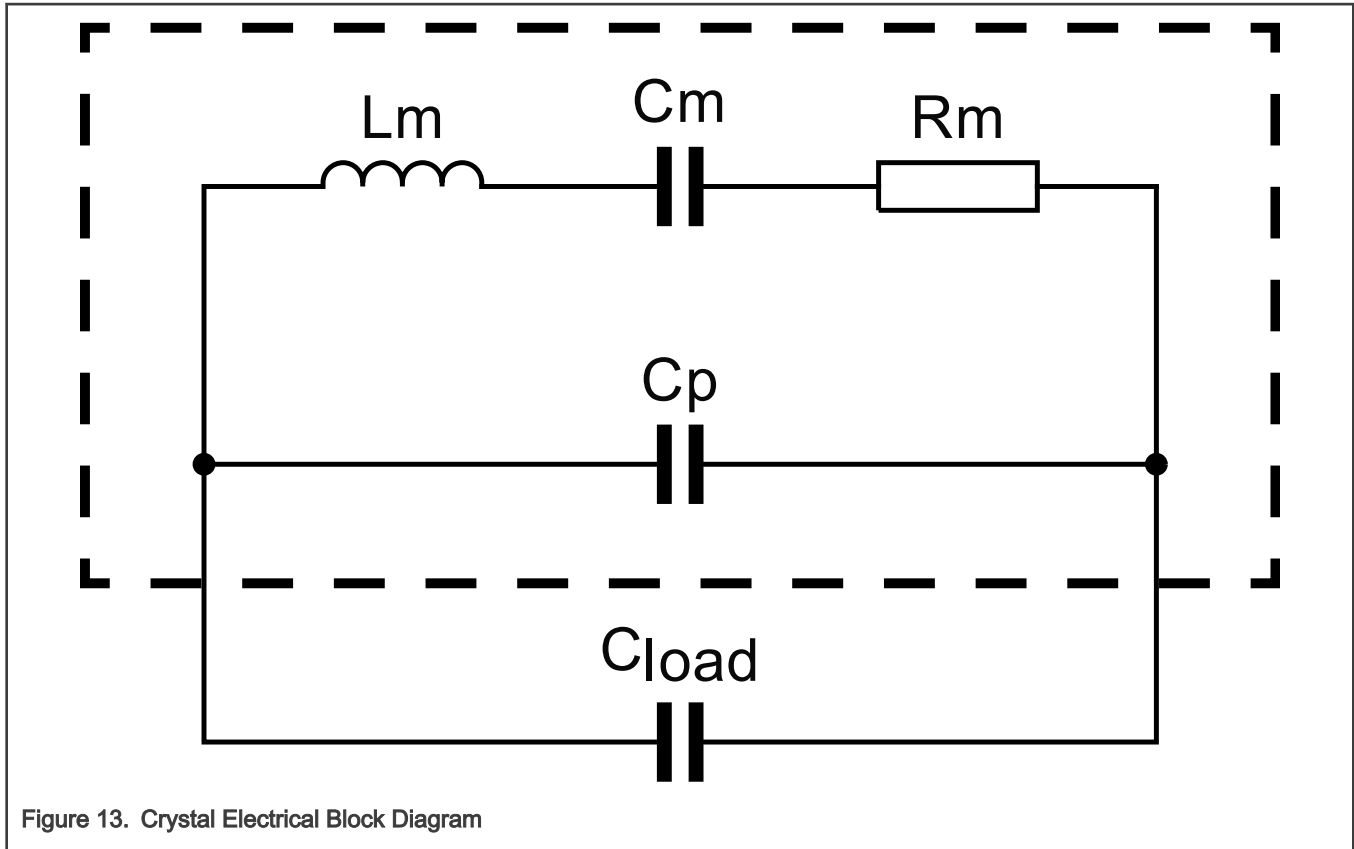

Figure 13. Crystal Electrical Block Diagram
**Table 34. System Oscillator Crystal Specifications. Refer to Figure 13 for additional details of the crystal parameters**